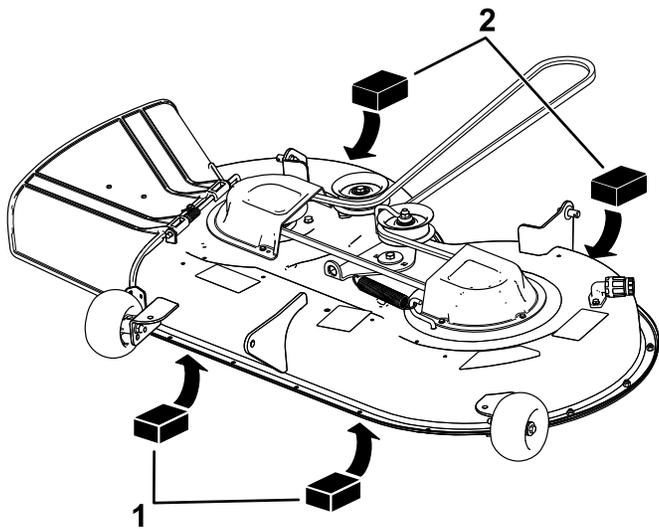

Figure 59
4. Place 2 blocks, each having a thickness of 6.6 cm (2-5/8 inches), under each side of the front edge of the deck but not under the anti-scalp roller brackets (Figure 59).
5. Place 2 blocks, each having a thickness of 7.3 cm (2-7/8 inches), under the rear edge of the cutting deck skirt, 1 on each side of the cutting deck (Figure 59).